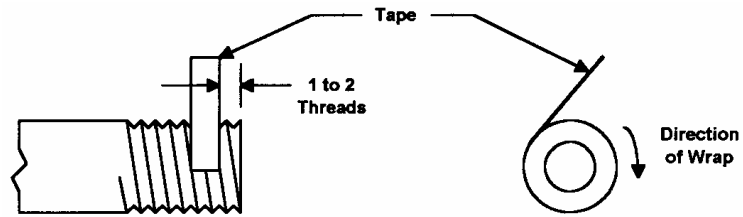

Figure 1
- A. Connect both the upper and lower adapters to your hydraulic fittings. Use Teflon® tape, or equivalent, on all male pipe threads. See Figure 1.